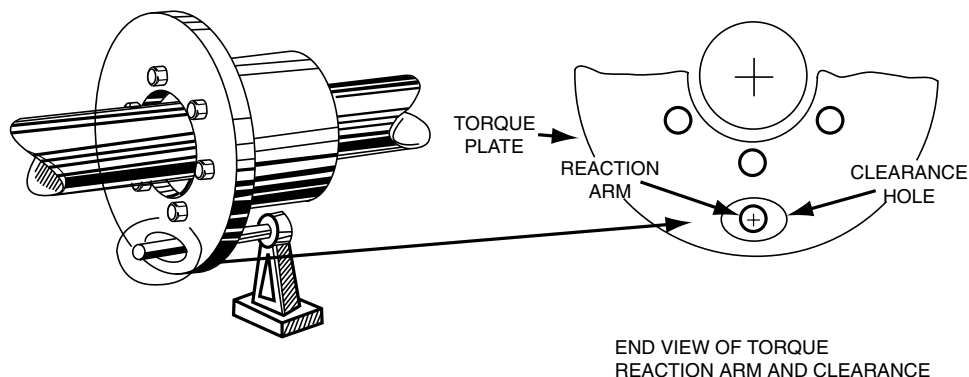

Figure 1
**Note:** For the FSO-700 clutch six (6) hardened mounting screws are adequate for torque loads up to 3,000 lb.-ft. Use eight (8) hardened mounting screws for torque loads above this value.
**Note:** Allow .25 to .50 inch circumferential clearance between the torque plate and torque reaction arm. (see Figure 1).